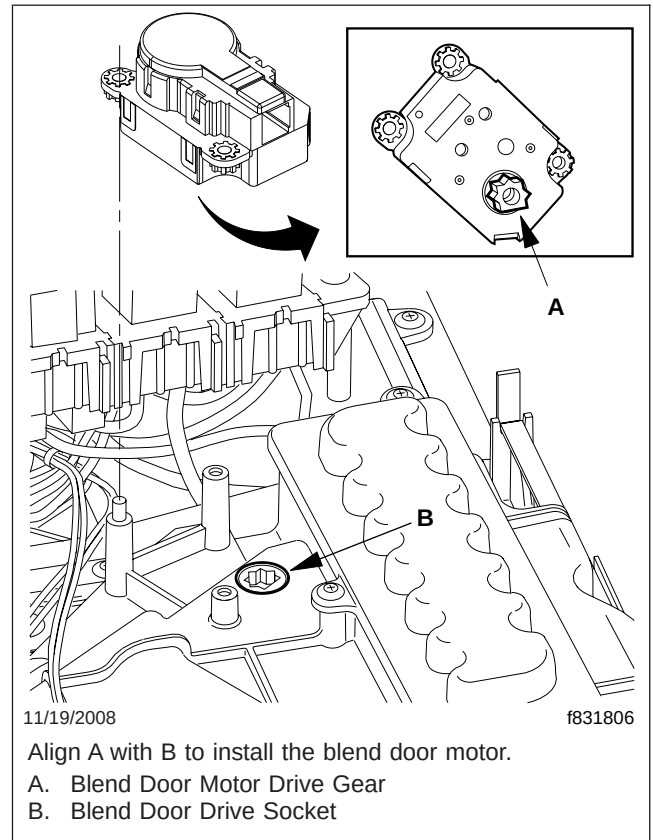

Fig. 2, Blend Door Motor Installation
3. Remove the fasteners, and lift off the blend door motor. See **Fig. 2**.